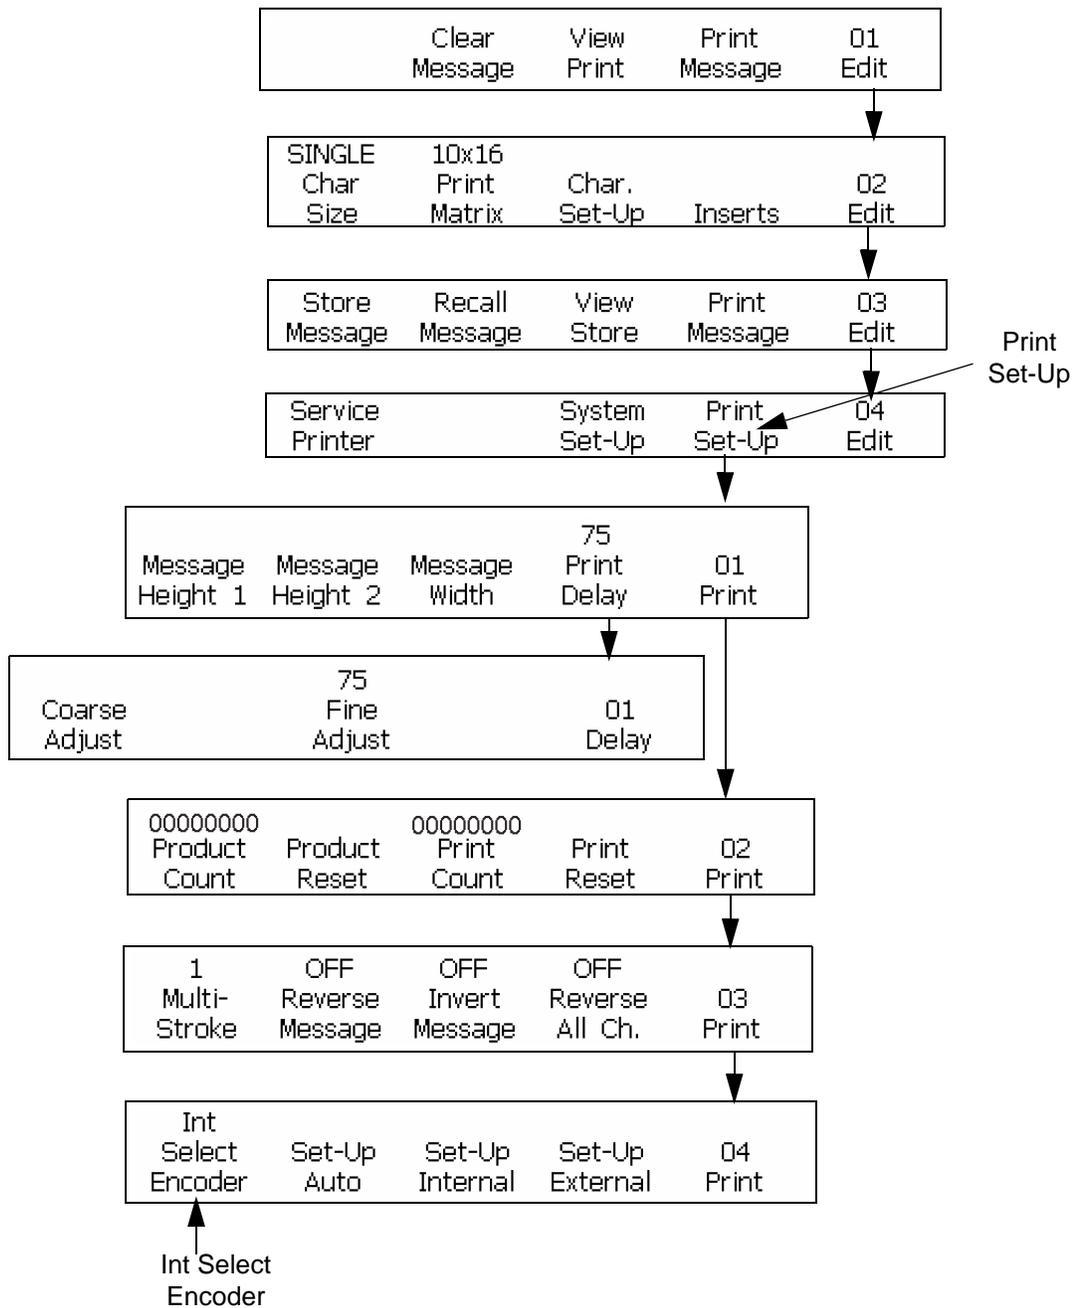

Figure 7-4: Access Frame <04 Print>
- 1 Begin with the frame <04 Print>. Refer to Figure 7-4.